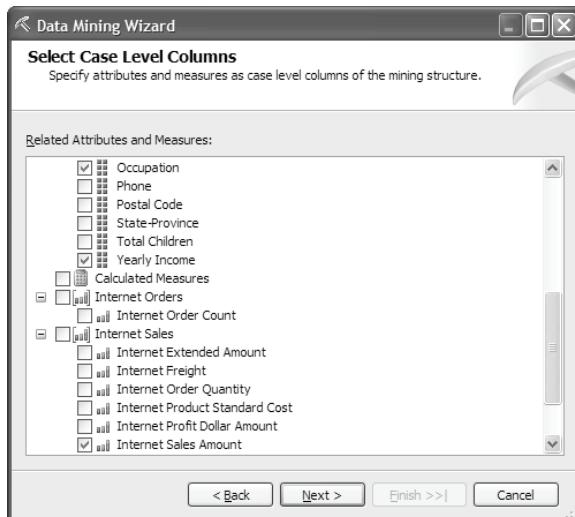

Figure 8.3 You can use dimension attributes and measures as input columns.
- Next, in the Select Case Level Columns step (Figure 8.3), we need to specify the input columns of the mining structure. You can choose any dimension attribute which has an attribute hierarchy (AttributeHierarchyEnabled = True). In addition, you can select any regular or calculated measure (derived through an MDX expression) from measure groups related to the selected dimension. Select *Age*, *Commute Distance*, *House Owner Flag*, *Number Cars Owned*, *Number Children At Home*, *Occupation*, and *Yearly Income* attributes from the Customer dimension. Select the *Internet Sales Amount* measure from the Internet Sales measure group to find out how customer spending affects the customer profiles.